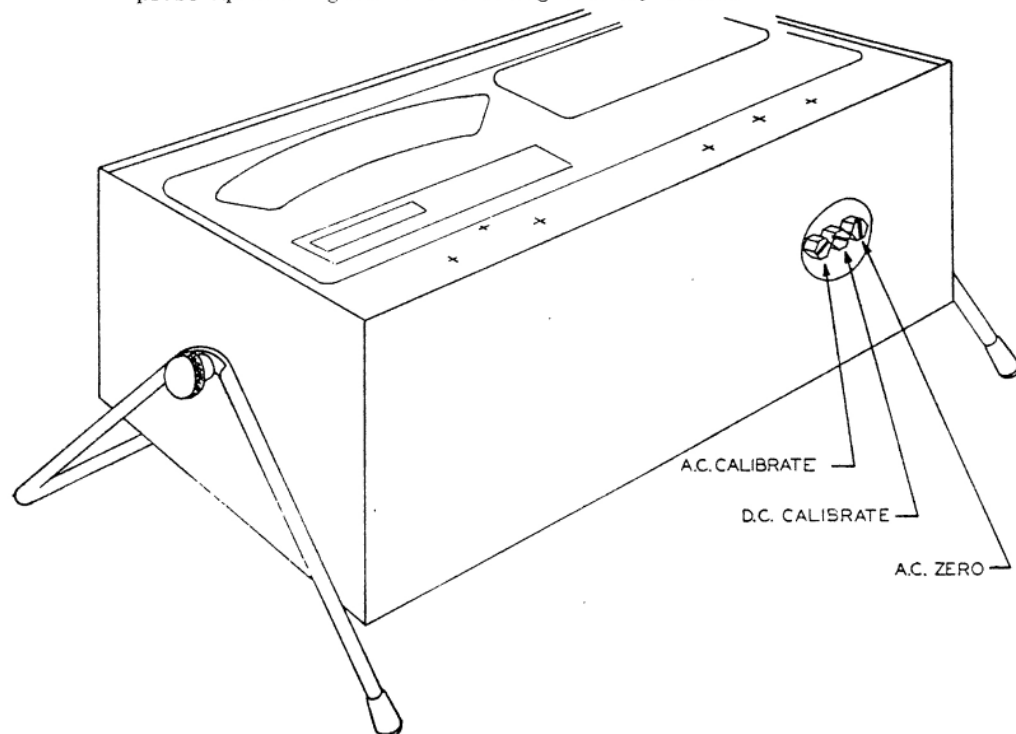

Figure 9—Location of Calibration Controls
1. Place instrument in a horizontal position as shown in Fig. 9. Set the RANGE switch to 500 M.A. Allow the instrument to stabilize a minimum of 48 hours if tubes have been replaced. If a component has been replaced allow at least 1 hour warm up before proceeding.
- G. Slowly rotate the DC CALIBRATE CONTROL, Figure 9 until the meter reads exactly full scale. (1.5 volts.)
- D. With the probe tip still shorted to the ground lead, set the SELECTOR to P-P and zero adjust the meter with the AC ZERO control, Figure 9, for a zero reading on the meter scale.
- G. Slowly rotate the AC CALIBRATE CONTROL, Figure 9 until the meter reads exactly full scale. (15 volts.)